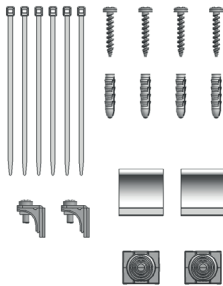

Fig.1
The Fiber Distribution Box is designed for indoor and outdoor applications. It can be used as a demarcation point (DP) box of the fiber network at the customer's premises or as a building distributor (BD) box to the floors of the building (Fig. 1).